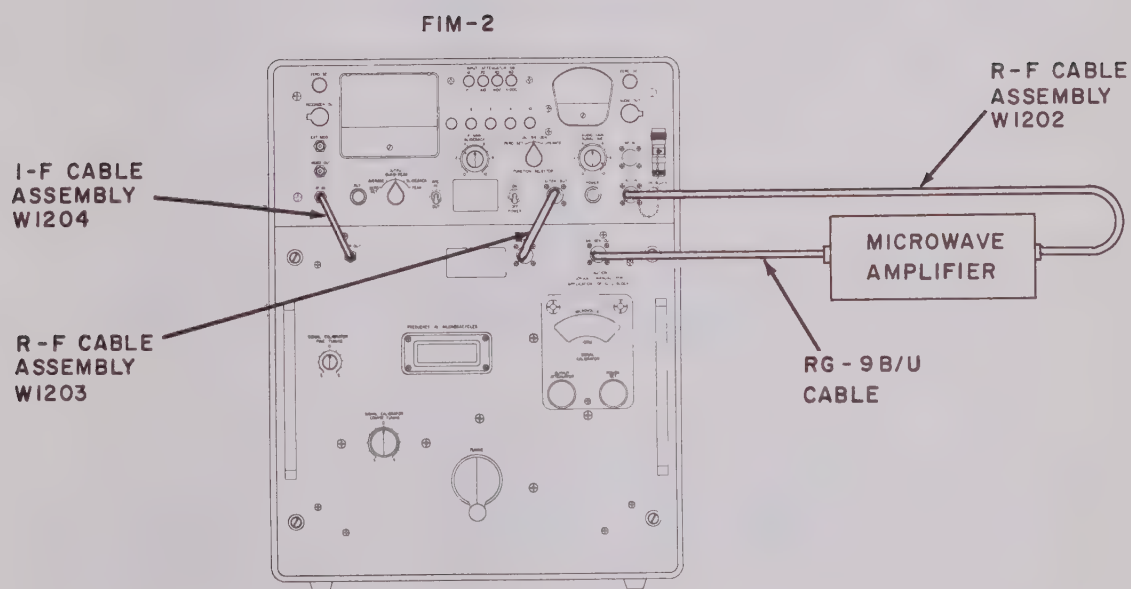

Figure 2-14. Gain Measurements, Equipment Set Up
b. Connect the input of the microwave device to the SIG GEN OUT jack, as shown in figure 2-14.
c. Connect the output of the microwave device to the CAL IN jack, as shown in figure 2-14.